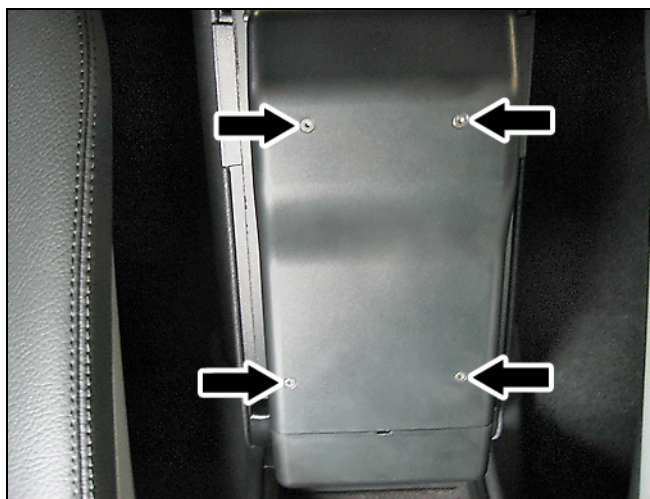

Figure 21
1. Open the lower compartment of the center console and remove the four T8 Torx screws (Figure 21) from the upper compartment underside to release the false floor.